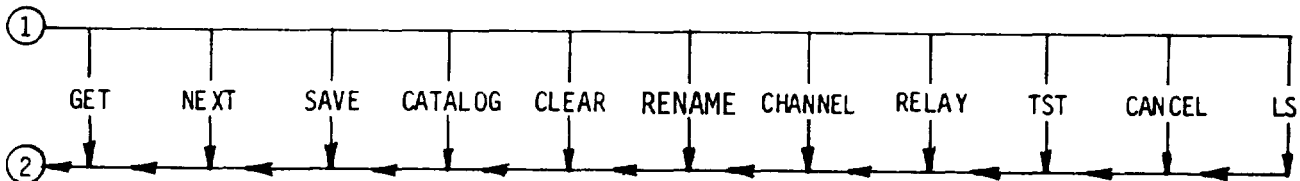

Figure 2-7. SYSTEM COMMANDS STRUCTURE
- a. Intelligent Communications Terminal (ICT) state provides operator with composing, editing and formatting capabilities, These capabilities are gained by using System Commands Structure shown in figure 2-7, See paragraph 2-14 for command descriptions,